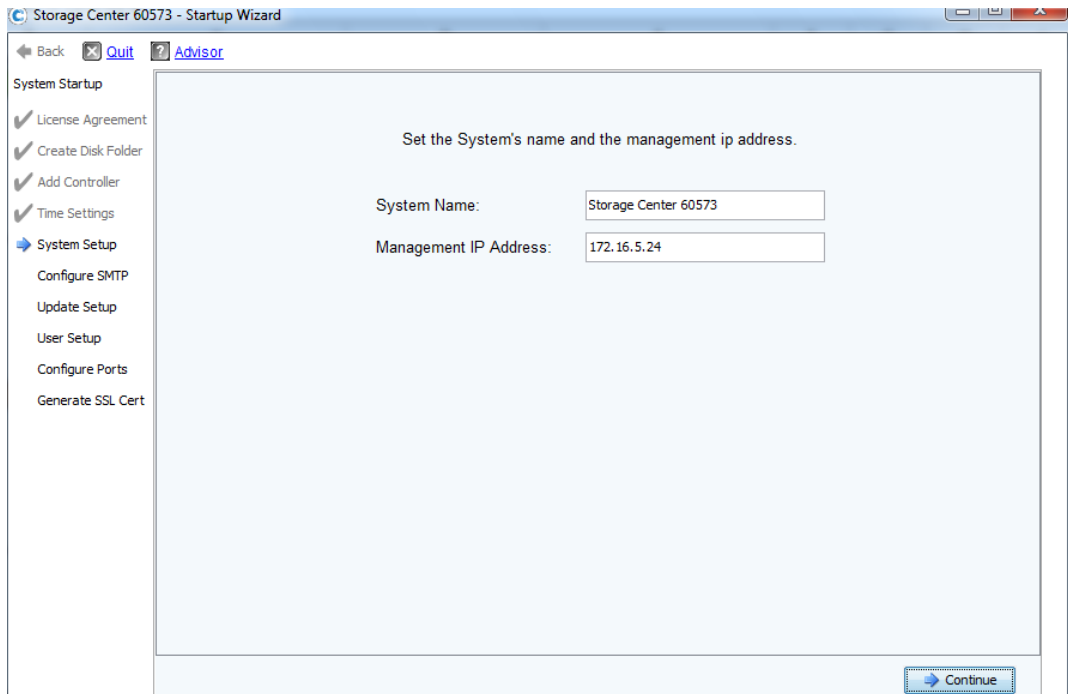

Figure 21. Set up the IP addresses
2. If there is a second storage array, type **172.16.5.24** in the **Management IP Address** text box, and then click **Continue**, shown in Figure 21. Otherwise, leave the **Management IP Address** text box empty and then click **Continue**.